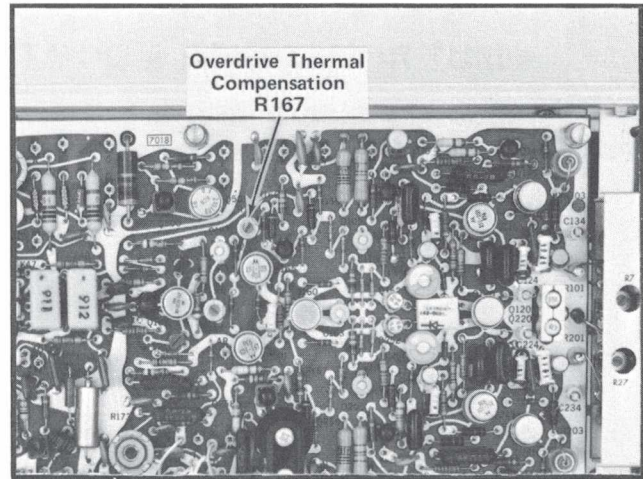

Fig. 5-4. Partial view of Input board showing adjustment location for step 11.
- e. ADJUST—If tolerance is exceeded, adjust the Overdrive Thermal Compensation control R167 (see Fig. 5-4) for quickest return of trace (with minimum final trace drift) to within 0.5 mV of graticule center.